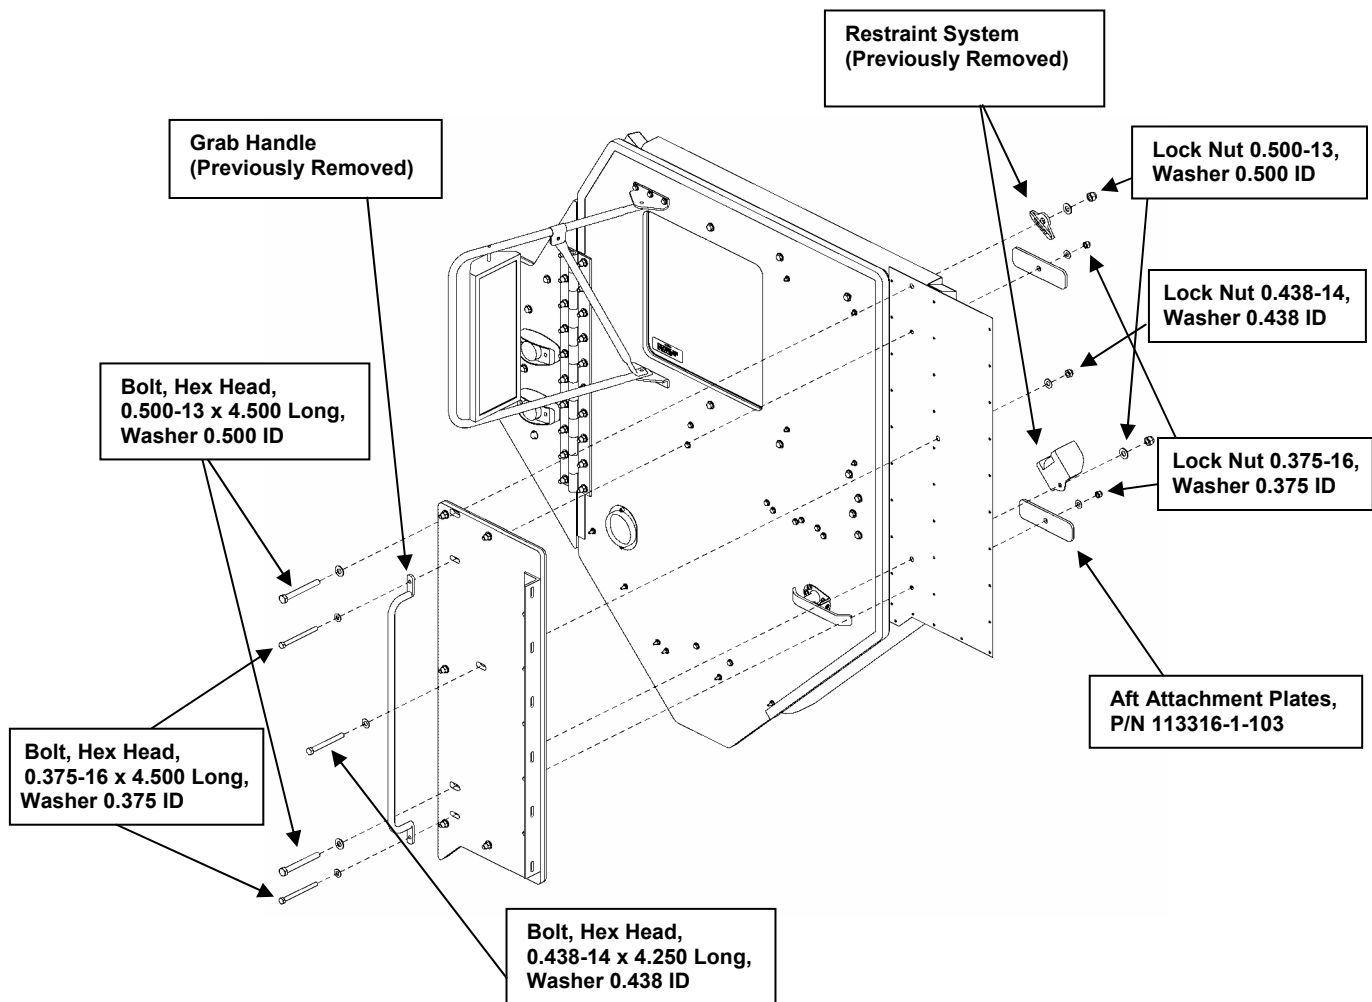
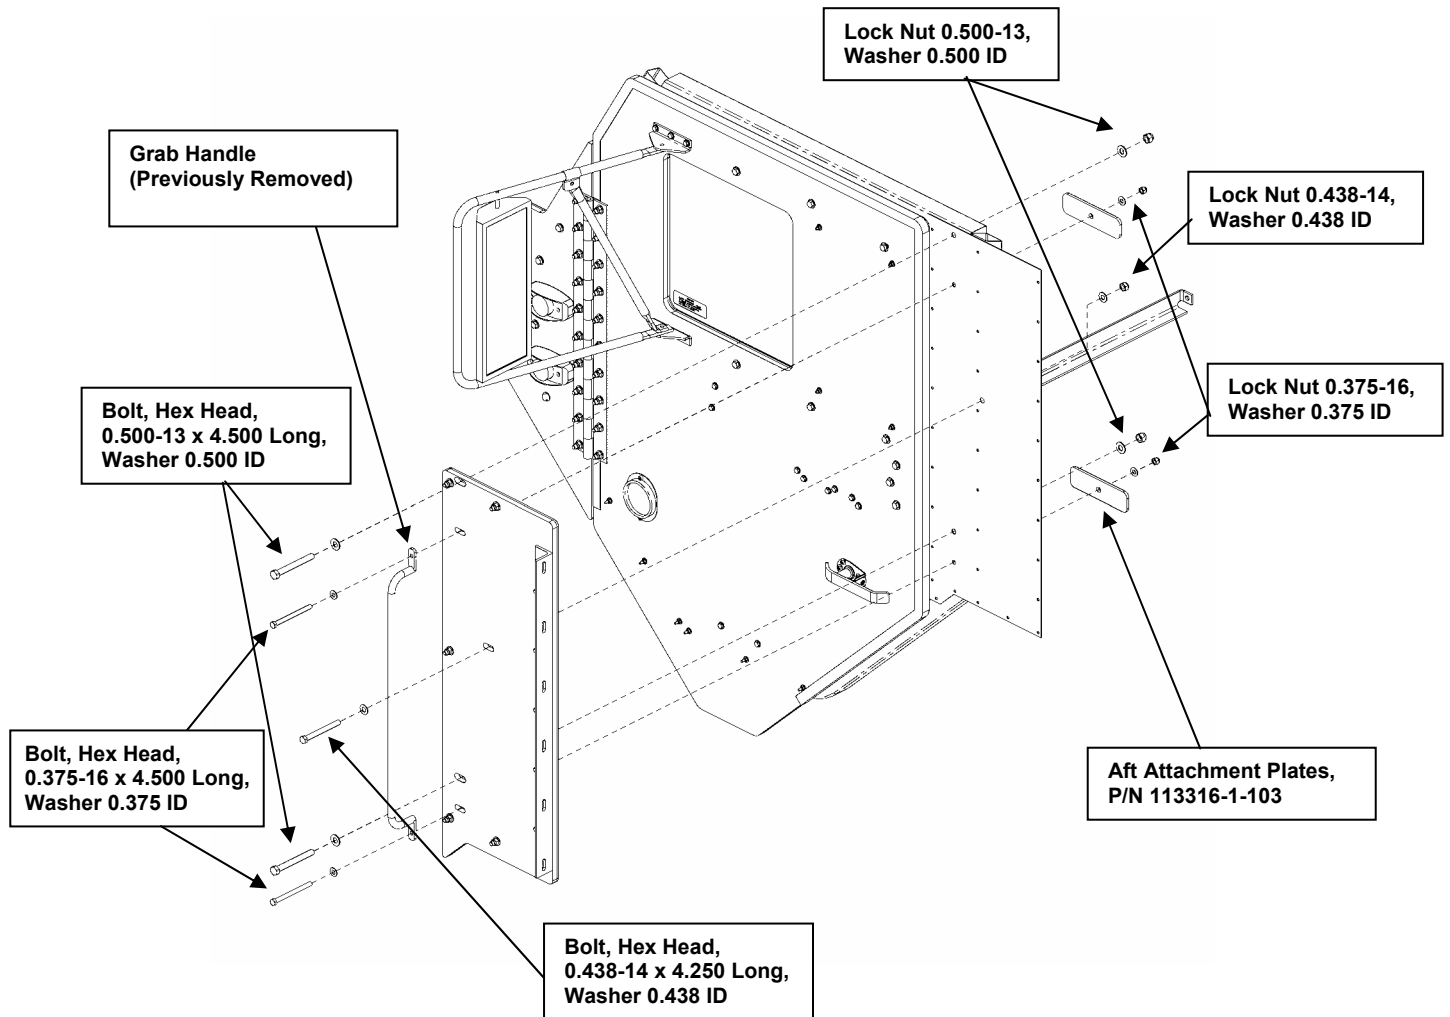

Figure 34. Rear Side Panel installation (three-point restraint).
Figure 35. Rear Side Panel installation (four-point restraint).
- ii) Once the type of restraint system is identified, install the Rear Panel Assembly and the other hardware, as shown in Figure 34 for the three-point restraint system and Figure 35 for the four-point restraint system. Position the forward edge of Aft Panel Assembly as close to the door as possible without interfering with the door's opening and closing. Several attempts may be required to position the Panel properly.